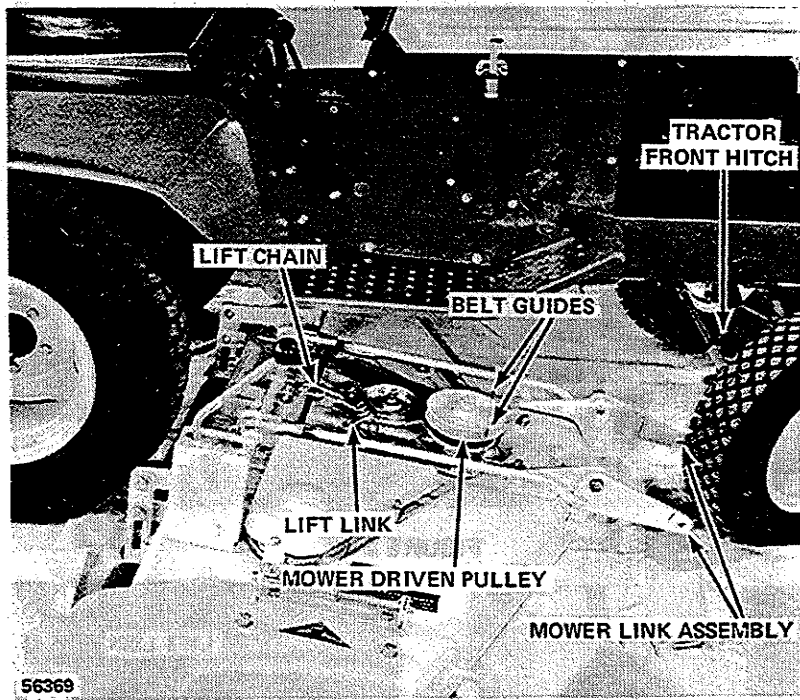
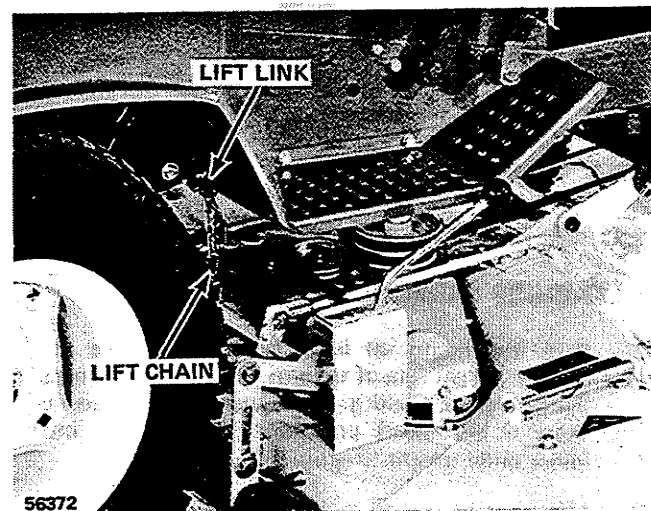

FIGURE 1
FIGURE 4
1. Park the tractor on level ground and place the mower at right side of tractor. Turn tractor wheels hard to the left and place mower height adjusting lever in the lowest position. Slide mower into place under tractor (Figure 1).
6. Assemble the lift link, (Figure 1) to the fifth link of lift chain and attach lift link to the lift arm under tractor with a pin and lock pin (Figure 4).
Referring to Figures 1 through 4: